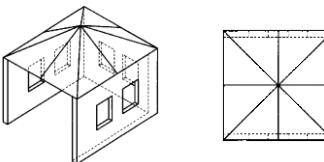

Figure 5 - Open side at least 25% of total wall area. 30% or more in total of the remaining wall area is open and unrestricted.
- At least 30% of the remaining wall area is open and unrestricted, (refer to Figure 5)